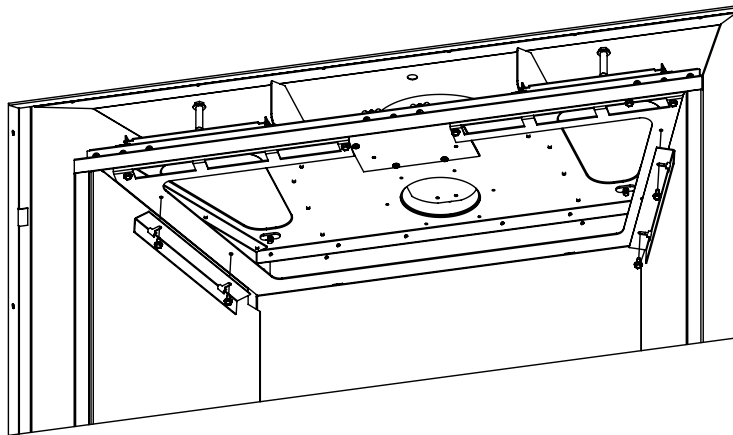

Figure 69: Liner Retainers
Step 3. Remove the liner retainers one at a time using a 5/16 socket. The screws only have to be loosened, not completely removed, as the retainers are key slotted. Remove the side liners first, then the rear (see Figure 69).